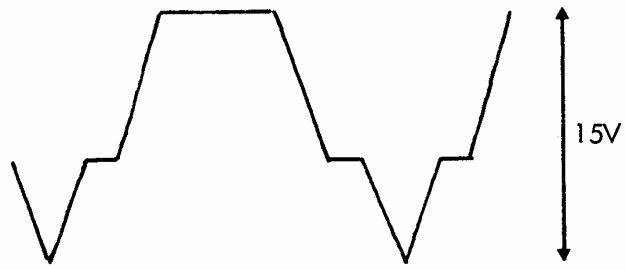

FIG. 5.1 CHARGE WAVEFORM
- 5.3.1 Connect the instrument to the a.c. power supply and switch to CHARGE. The oscilloscope waveform should be as shown in fig. 5.1, and the charging current should be approximately 200mA.